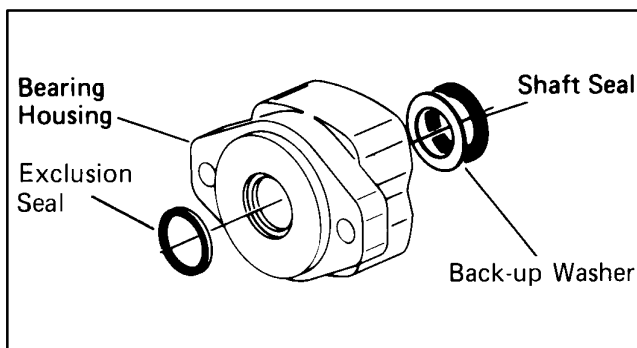

Figure 76
20. Use a small screwdriver to remove shaft seal, back-up washer and exclusion seal from bearing housing, see Fig. 76. Do not damage bore of housing.